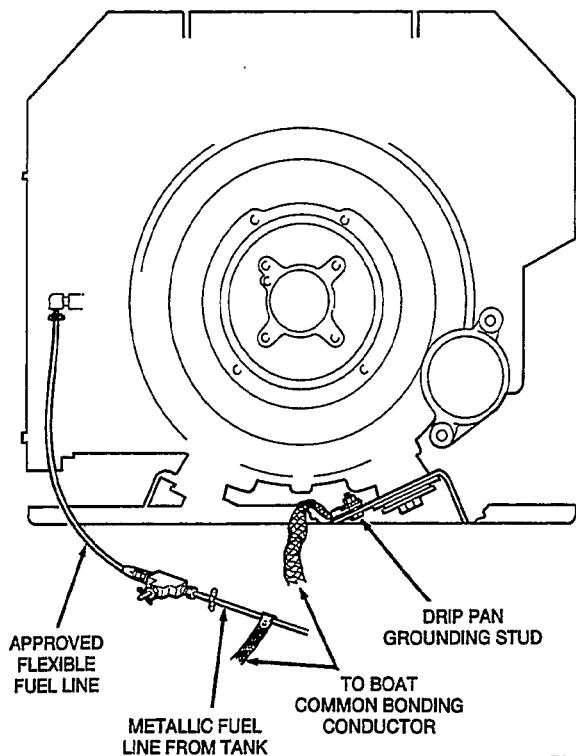

FIGURE 7-3. FUEL LINE BONDING
- Electrically bond a metallic fuel line to the vessel with a suitable bonding strap. The drip pan must also be bonded to this same conductor as shown in Figure 7-3.